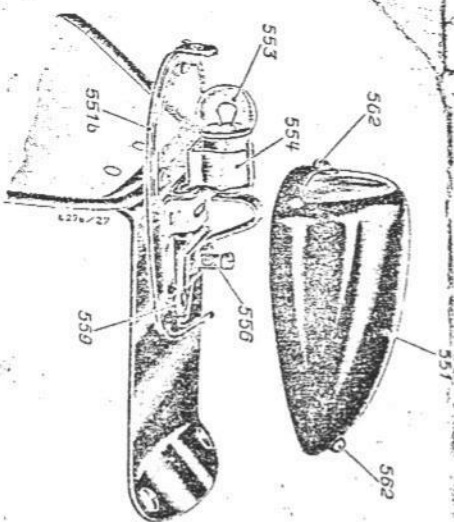

Fig. 14. Number-plate lamp JN 7 K 1, opened
b) Number plate lamp JN 7 K 1 (Fig. 14).
Fixing the cable and replacing the bulb is done in the same manner as on number plate lamp JN 7 K 1 (Fig. 14).